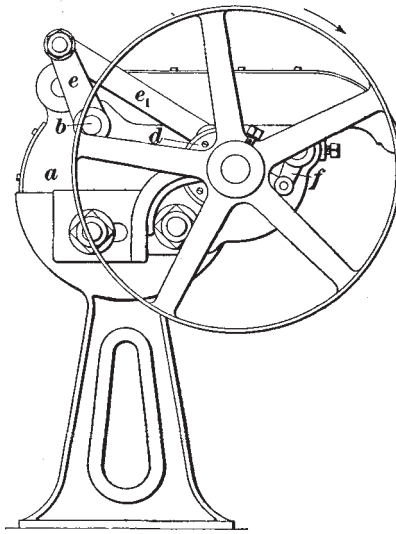

FIG. 2
13. Sargent Oiler.—Another machine for automatically oiling wool is shown in Figs. 2 and 3, its object being to lubricate the stock as it passes into the feed-rolls of the first breaker card. The oil is broken into finely divided particles, as is the case with the oiler previously described, and precipitated on the wool, which is evenly spread on the feed-apron of the card. The principle on which this machine depends is that of an oscillating, instead of a rotating, brush that extends across the feed-apron and, being moistened with oil, throws the same on the stock.